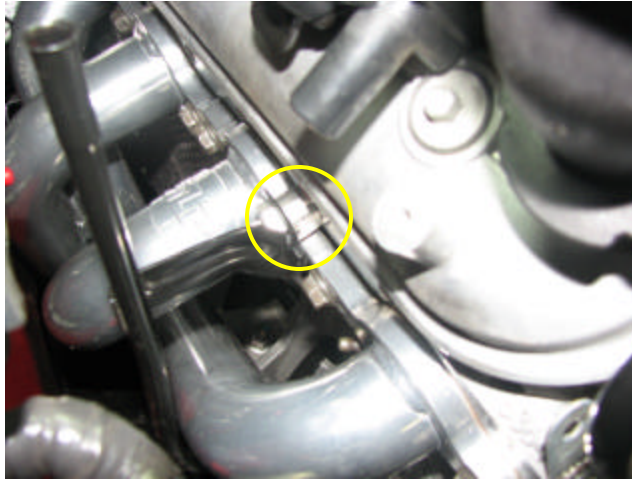

Figure 8: Spacer for dipstick tube
24. Place the dipstick tube spacer between the engine block and the dipstick tube, using the provided 35mm bolt to secure (Figure 8).